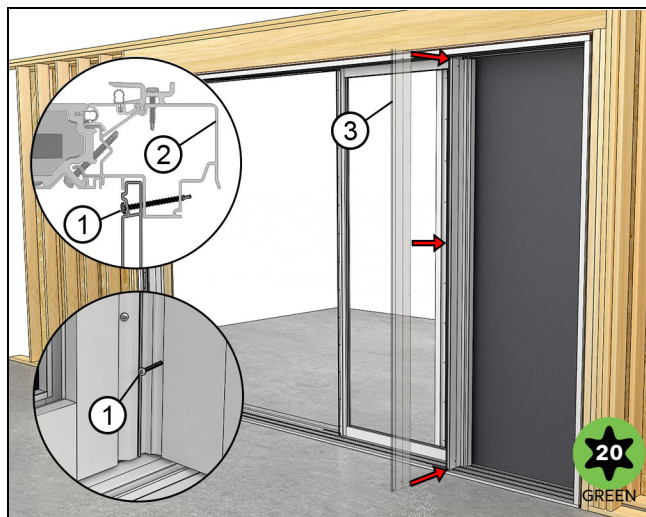

Figure 99
3. Attach the pocket cover assembly to the pocket support block at the top and bottom with the #8 x 1 3/4" (44) self drilling screws. See Figure 99.